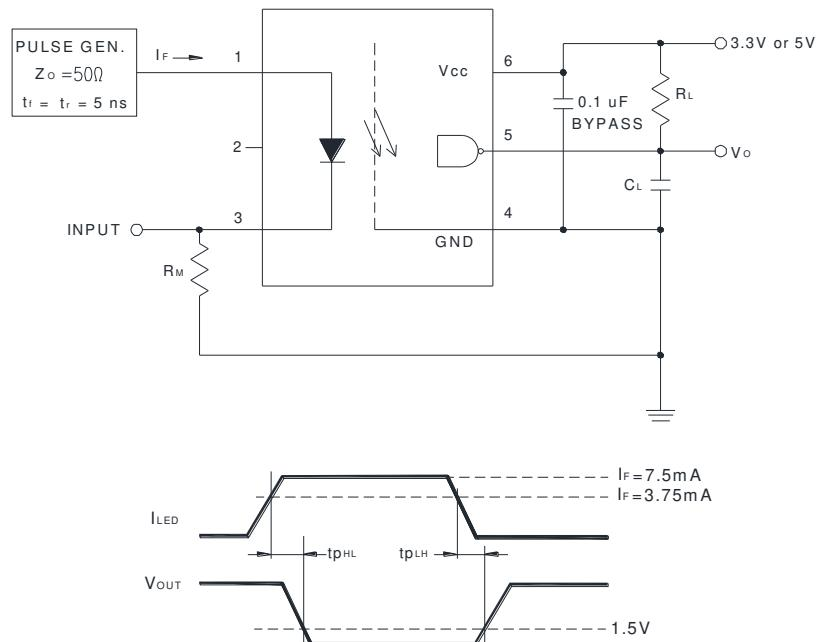

Figure 1: Test Circuit for t_{PHL} and t_{PLH}
1. A 0.1µF or bigger bypass capacitor for V_{CC} is needed as shown in Fig.1